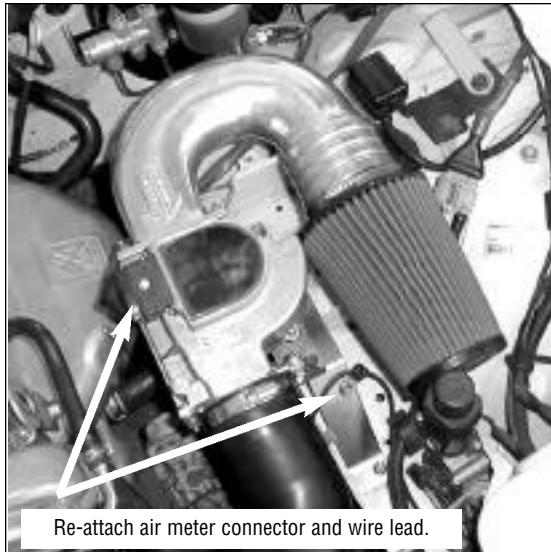

Figure 4
8. The wire harness leading to the air meter must be carefully straightened and re-positioned to give adequate length. After attaching the connector to the air meter, attach the wire lead to the clip on the bracket leg. See Figure 4.
9. Slip the air filter element onto the aluminum duct and tighten the clamp to secure the filter. This filter has been pre-oiled at the factory. Re-install the rubber intake hose onto the air meter and tighten the clamp to secure the hose. See Figure 4.